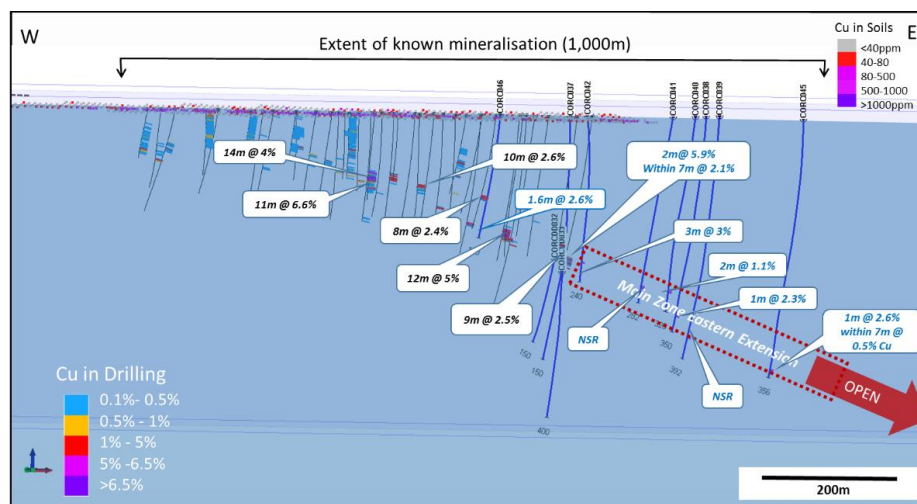

Figure 1: 3D schematic showing drill locations on eastern extension of main mineralised zone at Collerina
- Results from drilling on the main mineralised zone have returned >1% Copper in 6 of the 8 holes drilled, extending the system to a vertical depth of 350m (refer Figure 1).
The Company is very encouraged by the presence of copper mineralisation at predictable depths within the targeted corridor (Refer Figure 1). The geological controls on the main mineralised zone are now well understood with a foot-wall marker horizon consistently being intersected 10-20m below mineralisation, providing a good geological control within the Prospect.